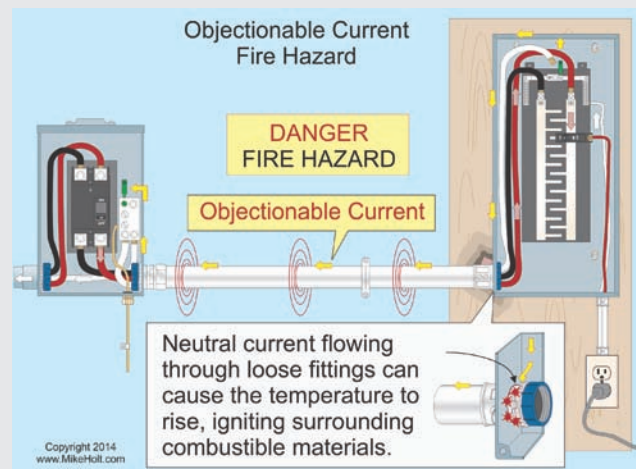

Figure 250-33
**Fire Hazard.** When objectionable neutral current flows on metal parts, a fire can ignite adjacent combustible material. Heat is generated whenever current flows, particularly over high-resistance parts. In addition, arcing at loose connections is especially dangerous in areas containing easily ignitable and explosive gases, vapors, or dust. Figure 250-33